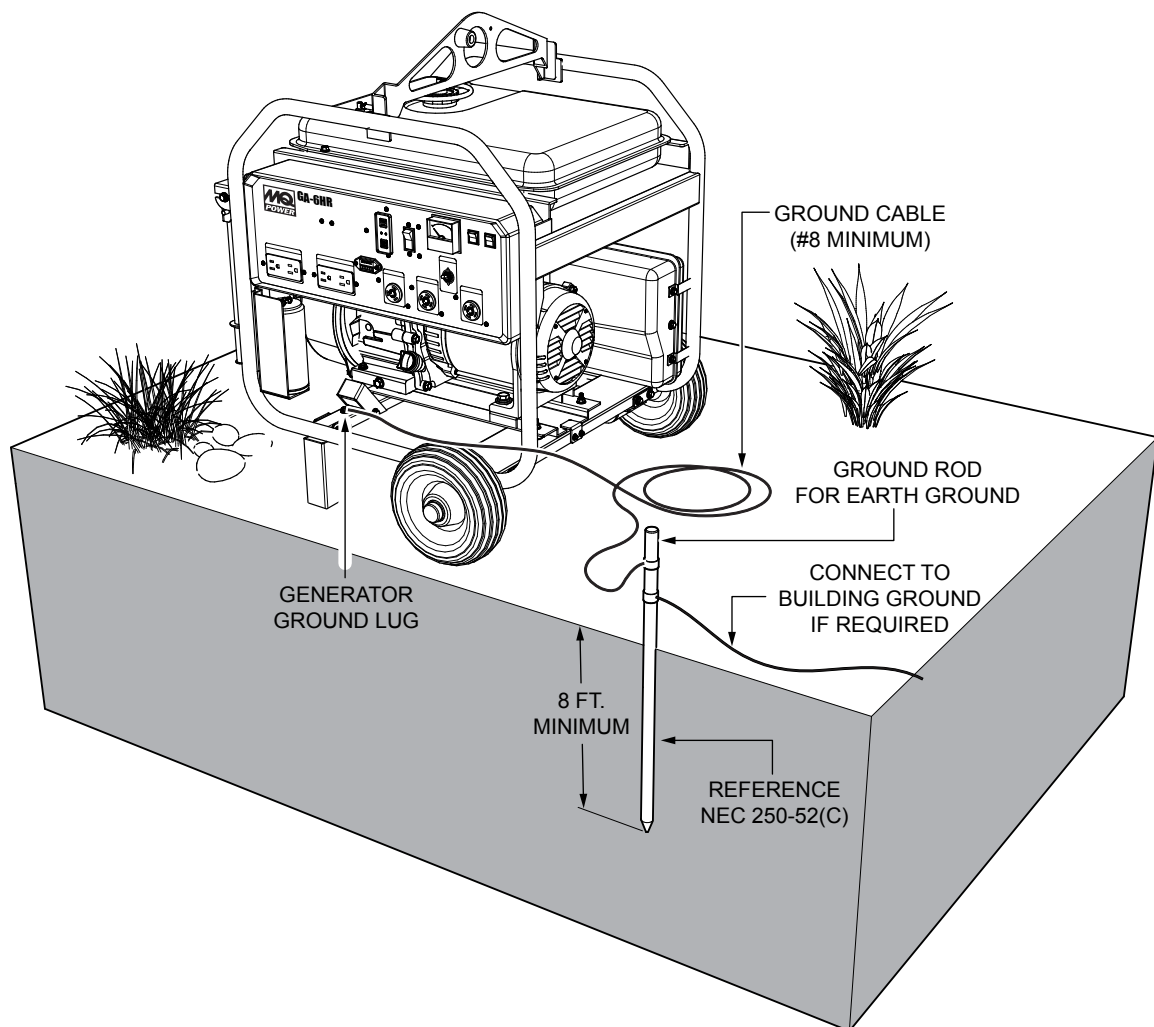

Figure 5. Generator Grounding
At the generator, connect the terminal of the ground cable between the lock washer and the nut (Figure 5) and tighten the nut fully. Connect the other end of the ground cable to a suitable earth ground (ground rod).
2. When grounding the generator (Figure 5) connect the ground cable between the lock washer and the nut on the generator and tighten the nut fully. Connect the other end of the ground cable to earth ground.